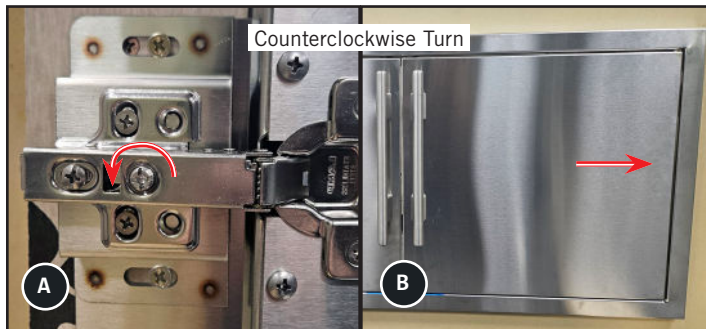

Fig. 3. Turn the horizontal adjustment screw counterclockwise to move the door towards the door casing.
- **Counterclockwise** turn moves the door closer to the door casing. See fig. 3.